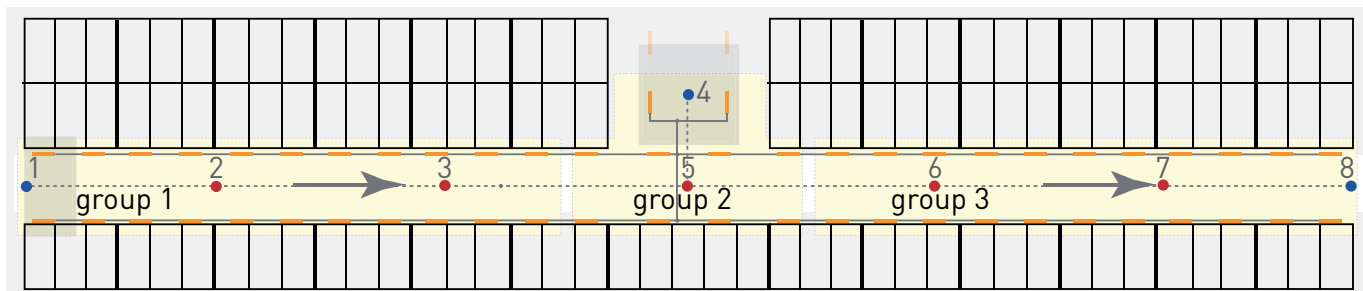

Figure 15:
In the **type 3 and 4 areas** there are more than 64 DALI devices, which are distributed to two outputs of one gateway. (see figure 15).
- For driveways of **type 4**, the luminaires are divided into three groups (see figure 15).